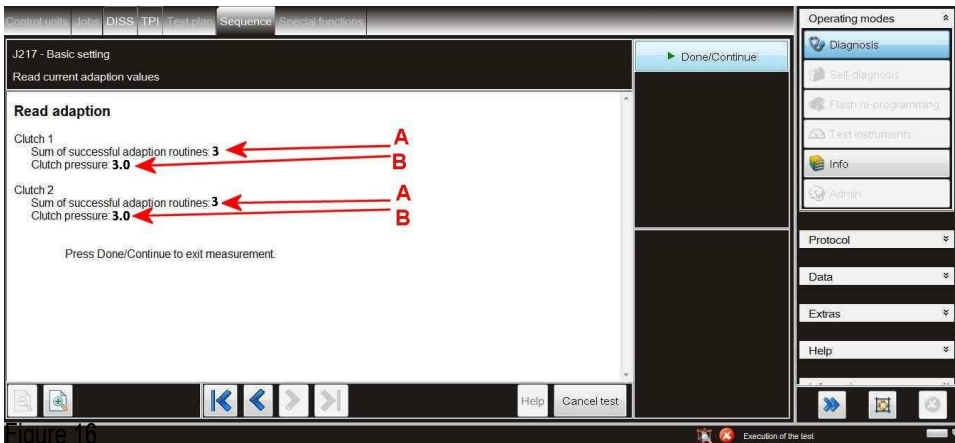

Figure 16
15) Referring to Figure 16 - Check and save the current adaption values